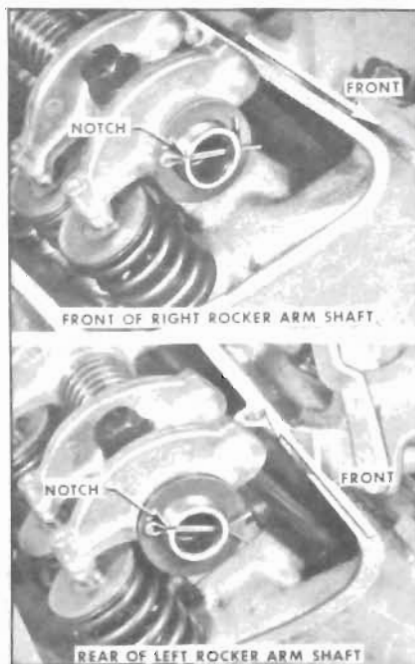

Figure 2-15—Rocker Arm Shaft Alignment
9. Check notch on one end of rocker arm shaft. Be sure it is positioned as shown in Figure 2-15.